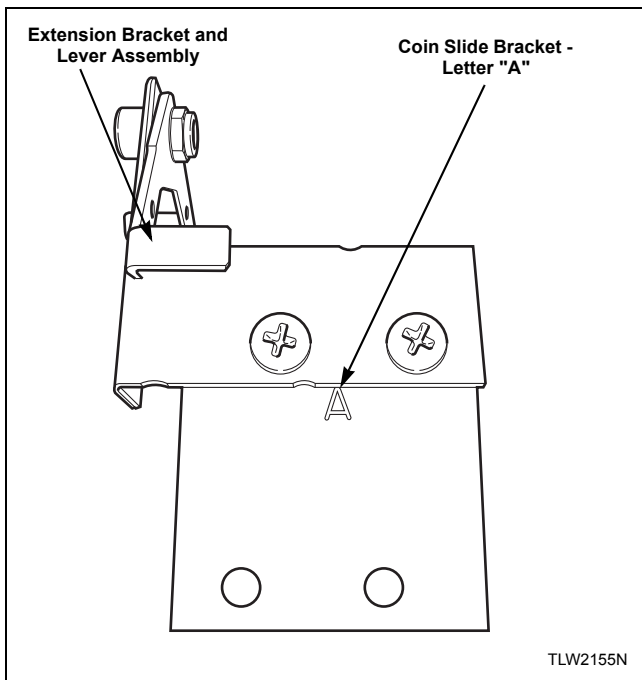

Figure 19
4. Install extension bracket and lever assembly onto coin slide bracket using two screws and locknuts. Refer to *Figure 19*.
IMPORTANT: Install coin slide bracket with side marked "A" facing up and toward extension bracket and lever assembly. Refer to *Figure 19*.